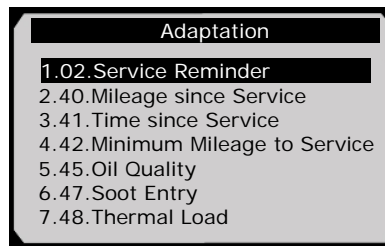

Figure 6.31
- 4) From **Oil Reset** menu (Figure 6.21) select **Adaptation** function and press **OK** button. Then the screen shows as Figure 6.31.